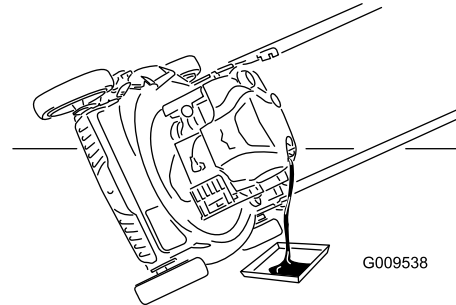

Figure 17
4. Tip the mower onto its side with the air filter up to drain the used oil out through the oil fill tube (Figure 17).